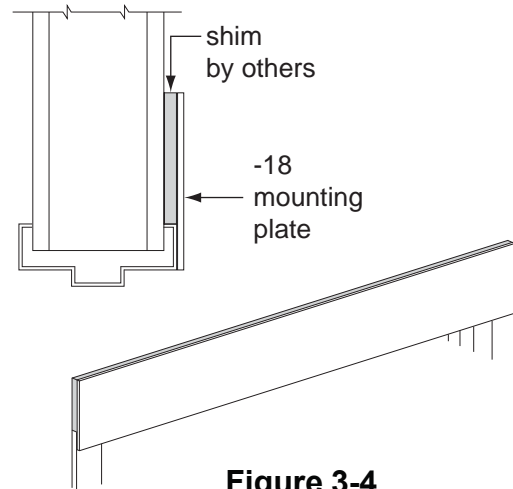

Figure 3-4
- 3.5.** Hollow metal and wood frames require the use of a -18 mounting plate, sold separately (Figure 3-4).